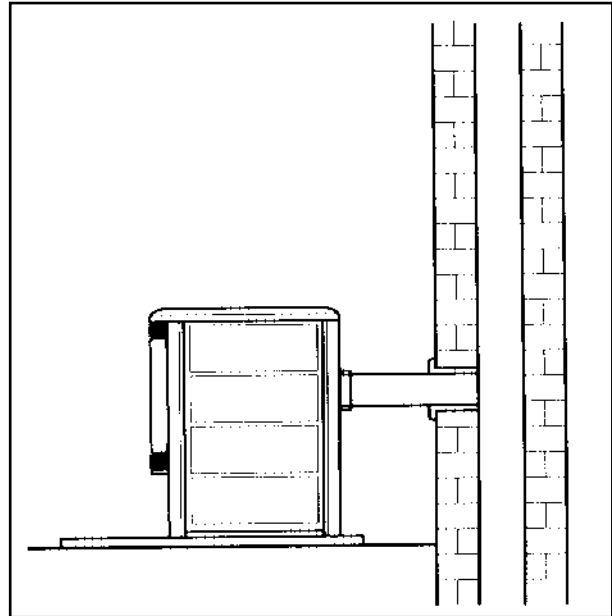
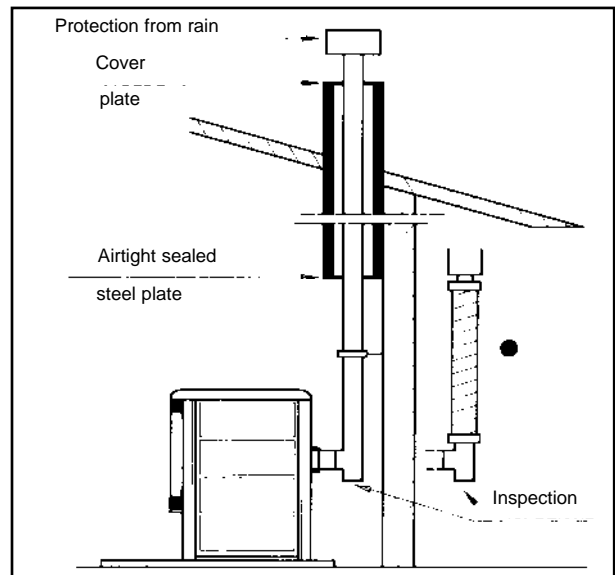

fig. 1
fig. 4
b) Connect the stove to the chimney by means of a steel pipe, sealing it hermetically and taking care not to obstruct the free section with the fume pipe. (See fig. 1)
\*see fig. 4
- Fig. 4 is the classic masonry chimney system, of course in addition to Fig.1). Use a T-pipe with an inspection plug and suitable supporting staffs. If the chimney is too big, we recommend reducing it by inserting a porcelain steel pipe or stainless steel (inox), with a maximum diameter of 150 mm, and appropriately sealing the fume inlet and outlet parts of the fume exhaust from the part in masonry.
(SEE FIG. 4 AND 5)